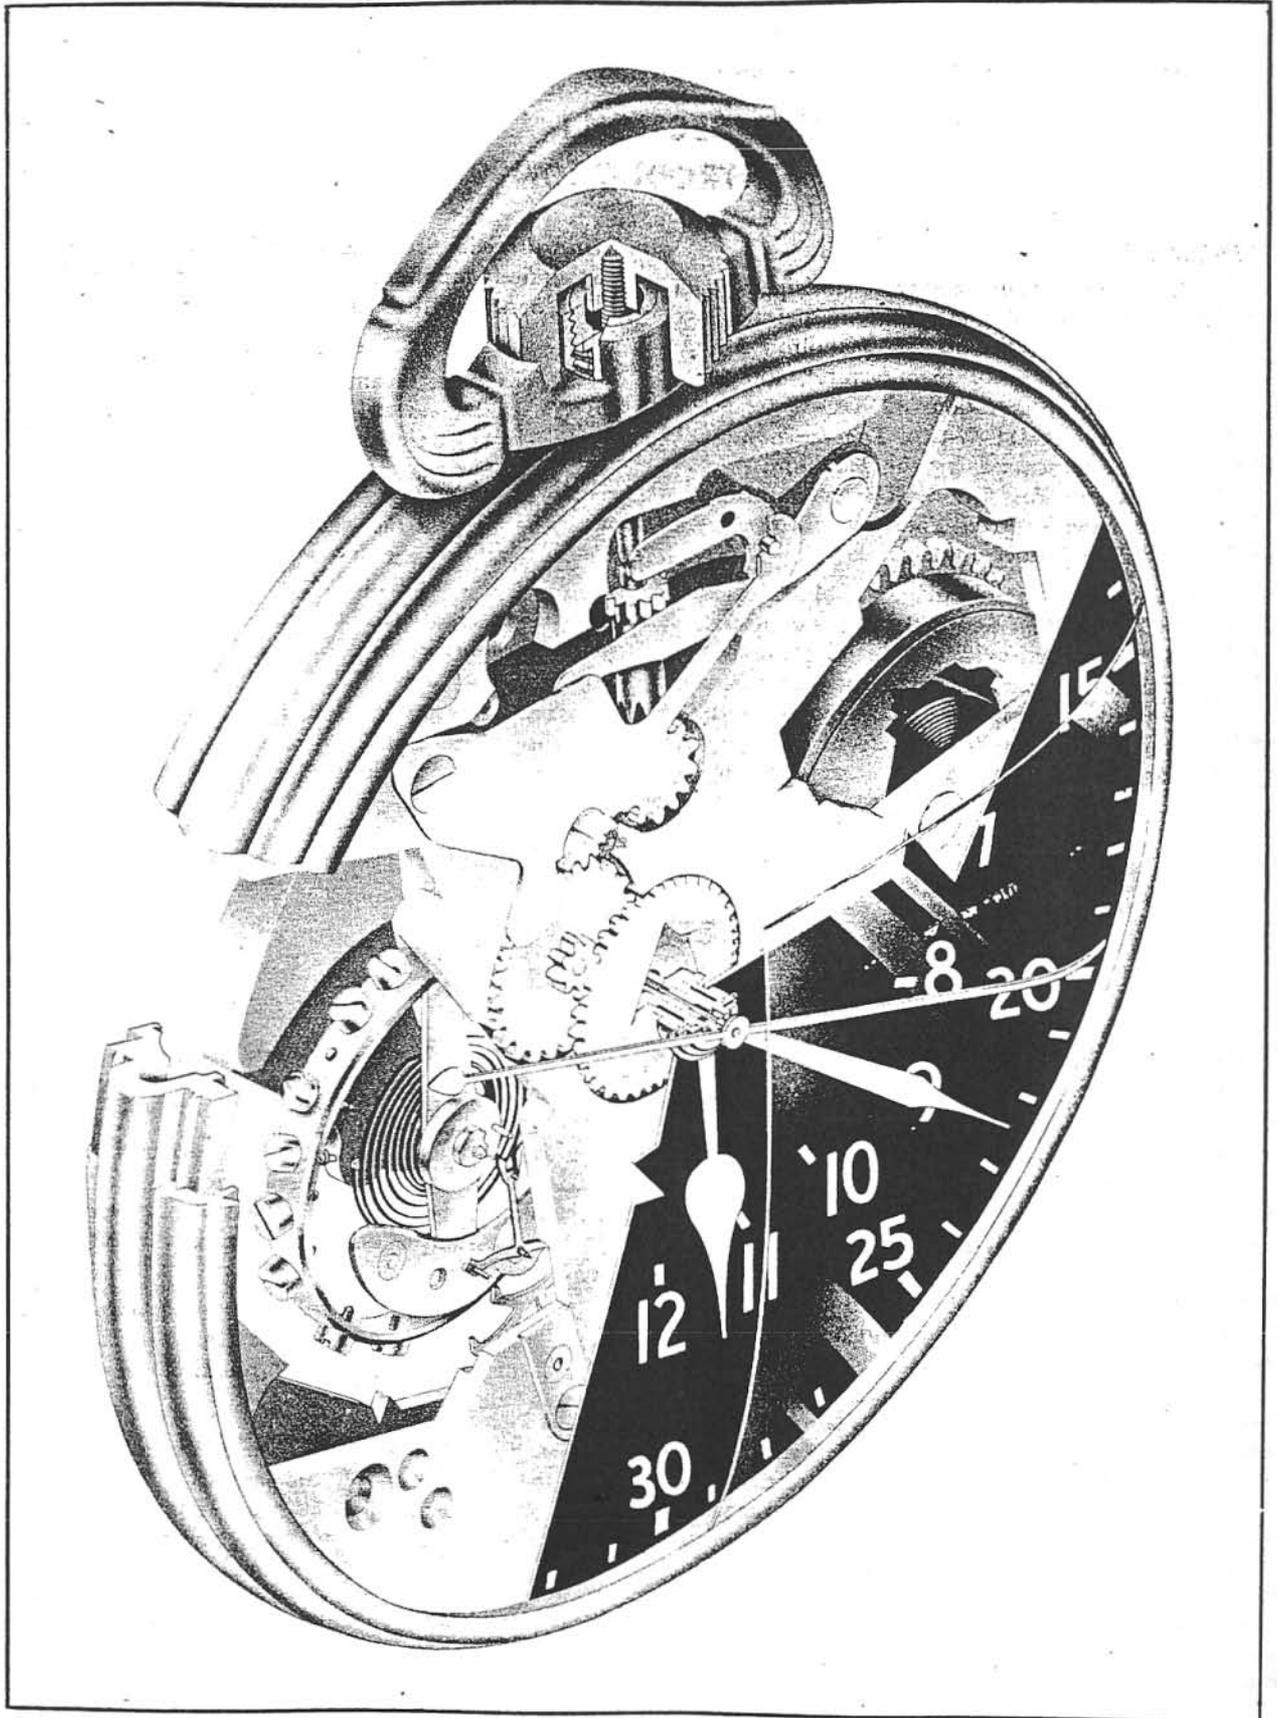

Figure 2—Three-quarter Cutaway View of Hamilton Master Navigation Watch
2. DETAILED. (See figures 2 and 3.)